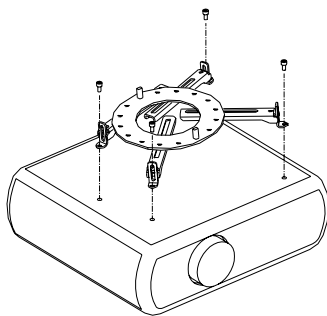

Figure 6
4. Secure Universal Projector Mount to projector. See Figure 6.